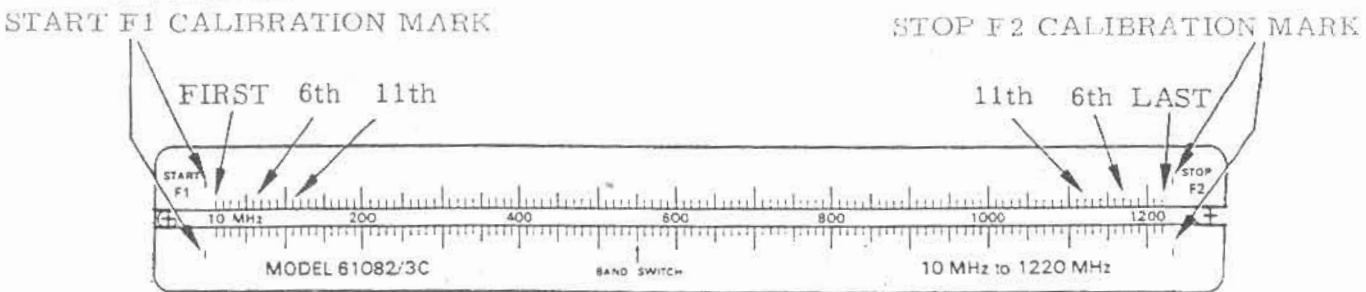

Figure 4-4 Slide Rule Dial Calibration Marks
15. Using the F1, VAR FREQ MKR, and F2 control knobs, align their respective pointers such that each is in coincidence with the START F1 Calibration Mark, shown in Figure 4-4.
18. Align all three pointers such that each is in coincidence with the STOP F2 Calibration Mark, shown in Figure 4-4.
21. Align the F1 and F2 pointers such that they are in coincidence with the START F1 Calibration Mark, shown in Figure 4-4.